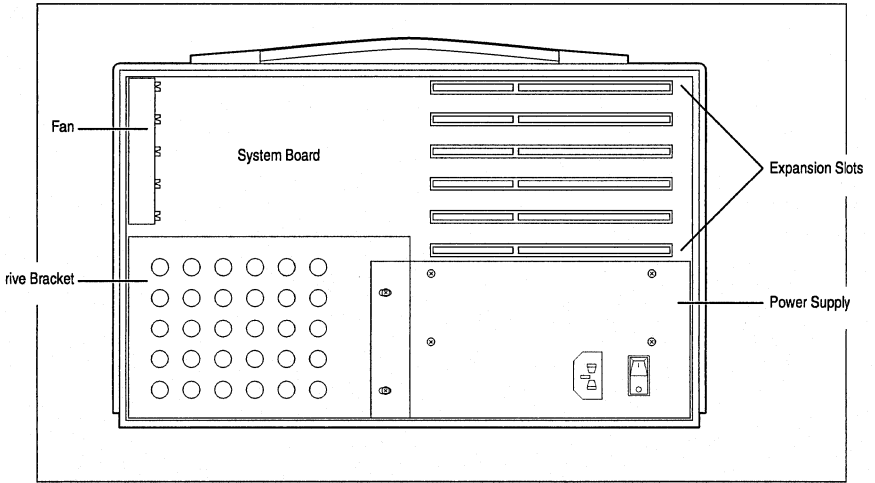

fig. 5-4
3. The expansion slots are located on the right side of the system board, above the power supply (fig. 5-4). Different expansion cards are installed differently from the factory, depending on specific configurations. At the very minimum, there will be a video controller card and a multi-function I/O card installed in your system.